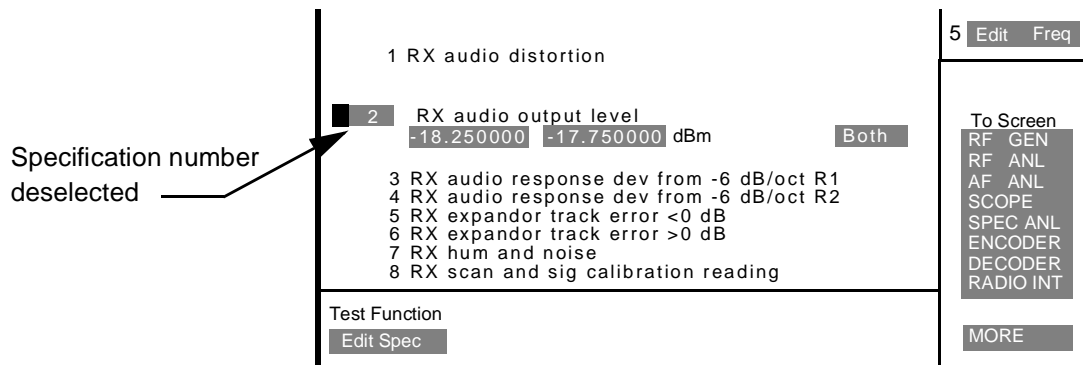

Figure 47
- Rotate the CURSOR CONTROL knob to specification number 2 and select it. The **spec#** field is deselected (unhighlighted), see figure 47.